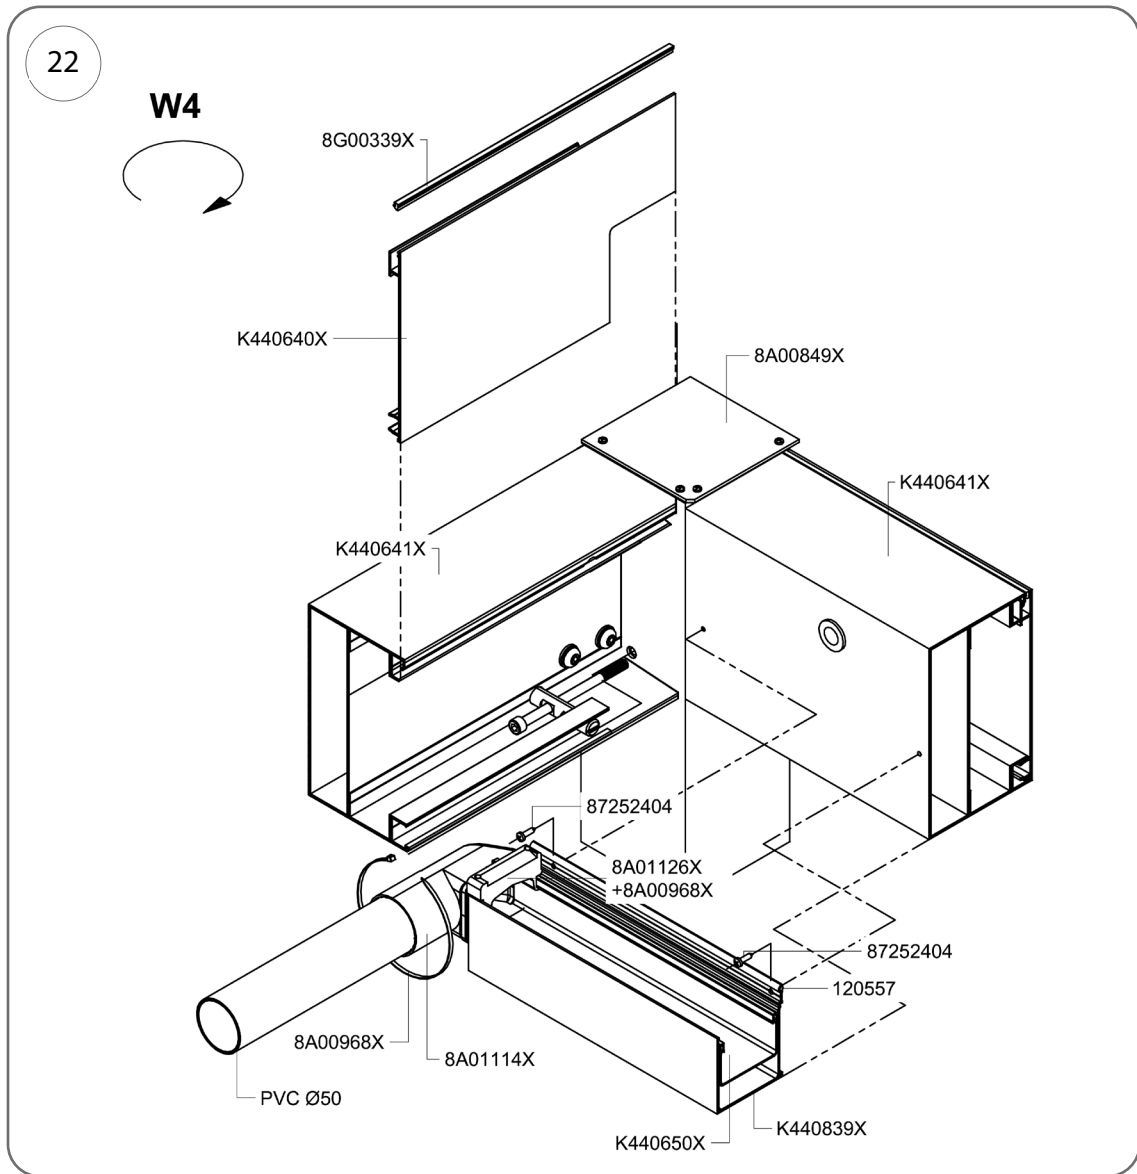

Fig. 22
- One gutter assembly is terminated with tees cat. no. 8A01115X (left) or 8A01116X (right), and the other gutter assembly is terminated with elbows 8A01114X when drainage is provided by 2 posts (fig. 22).